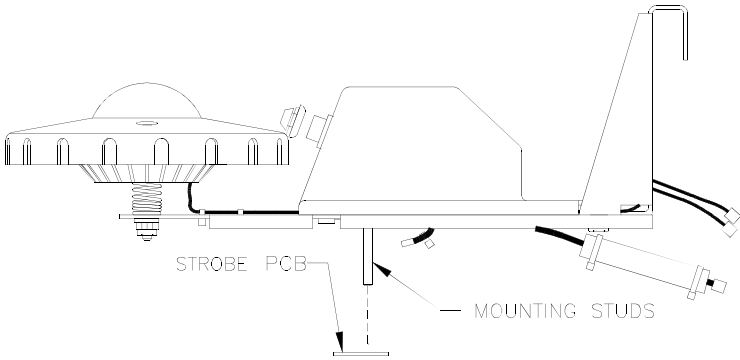

FIGURE 13
3. Remove the Strobe PCB from the mounting studs, collecting two more 45 degree spacers (p/n AFM-HDW-SPCR45). (See Fig.13)